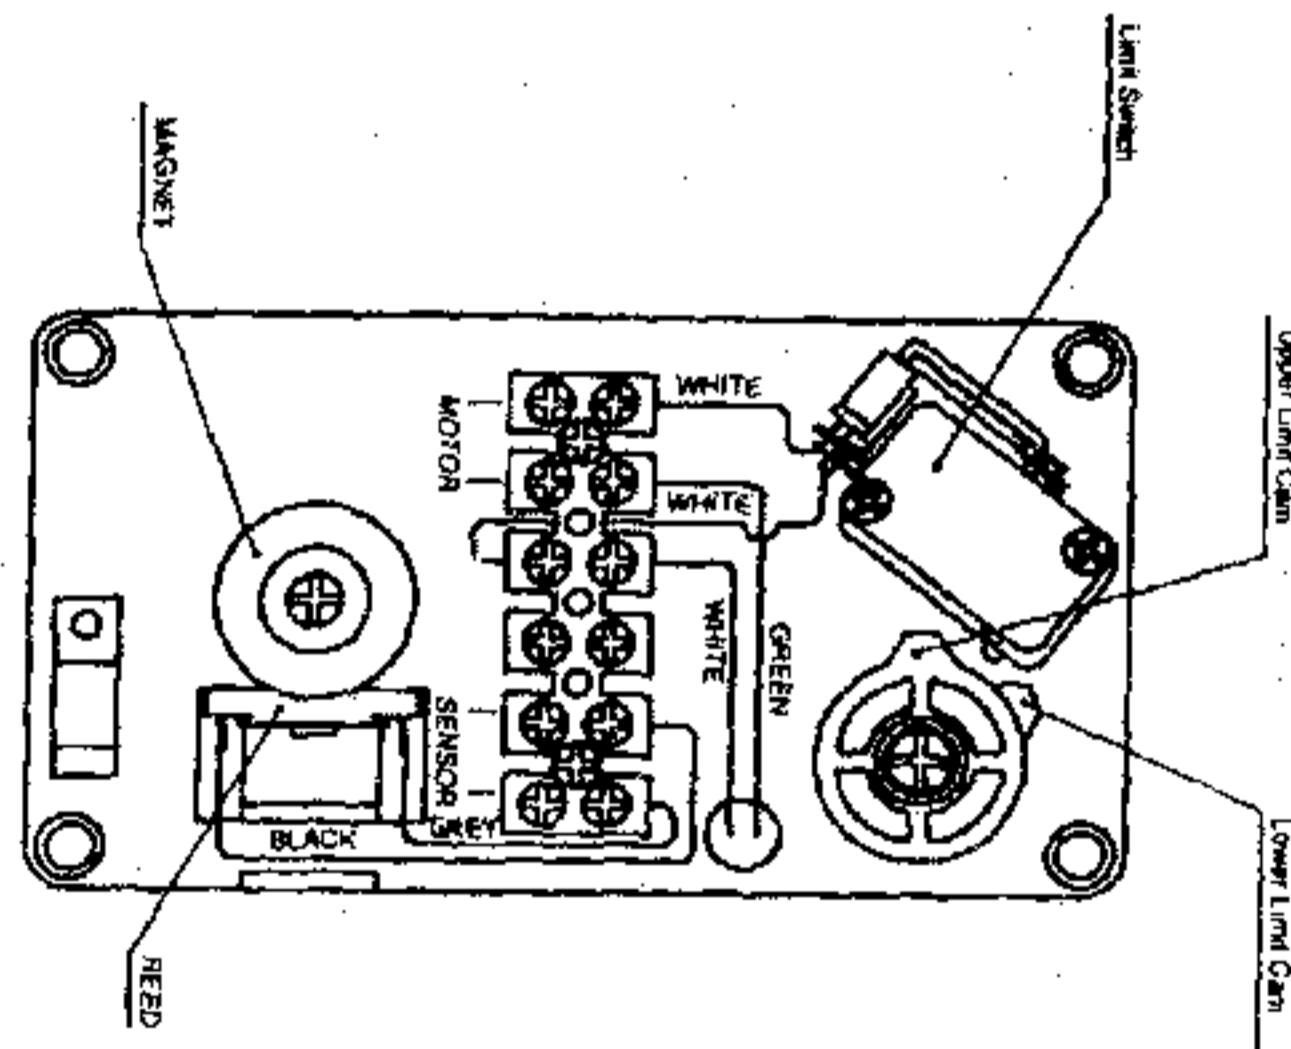

Fig 5
1. Open the back cover of the actuator locating two plastic cams stacked one on the other (see figure 5). The upper one is for the upper limit adjustment.